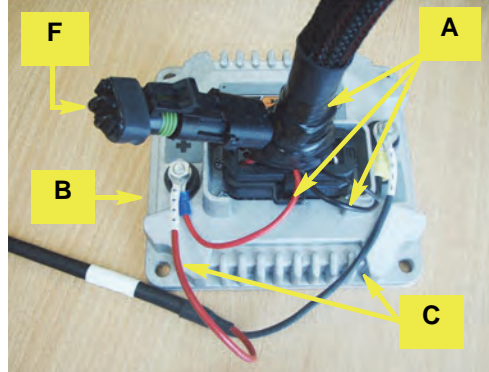

Figure 1a: Connections at AC110
- a. Install the loop back connector (terminator) **F** in the appropriate connector on interface cable **A** then connect **A** (main plug and power connectors) to AC110 **B**, red to + positive, black to - negative (Figure 1a). Do not refit terminal nuts yet.
Connect the non-fused end of power cable **C** to AC110 **B**. Refit the terminal nuts and tighten the power connections (Figure 1a).